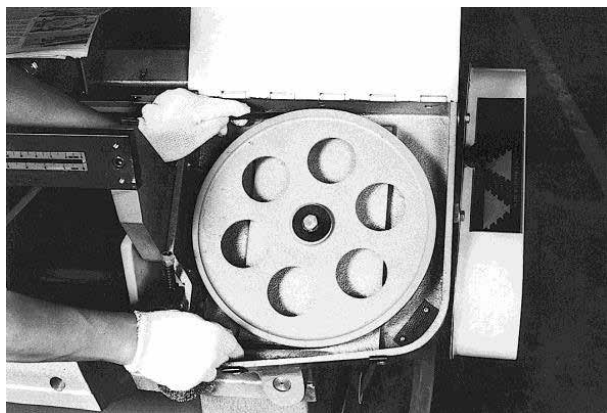

Figure 8. Working Blade Around Wheels
10. Put light tension on the blade and work it on both wheels, as shown in Figure 8. **IMPORTANT:** Ensure that the back of the blade is against the wheel flanges of both wheels.